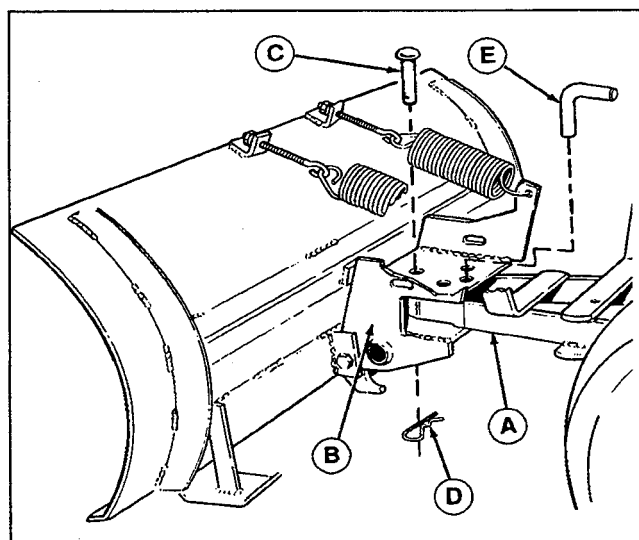

Figure 13. Dozer Blade Assembled and Installed
5. See Figure 13. Insert front of push bar (A) into pivot frame (B) on rear of blade. Then install king pin (C) down thru front holes in hitch and pivot frame. Secure king pin with spring clip (D).
6. See Figure 13. Using the king pin as a pivot, swivel the dozer blade to the desired position (angled left, straight, or angled right), and align one of the three rear holes in the pivot frame with the rear hole in the hitch. Install pin (E) downward through the aligned holes to lock the blade in the selected position.